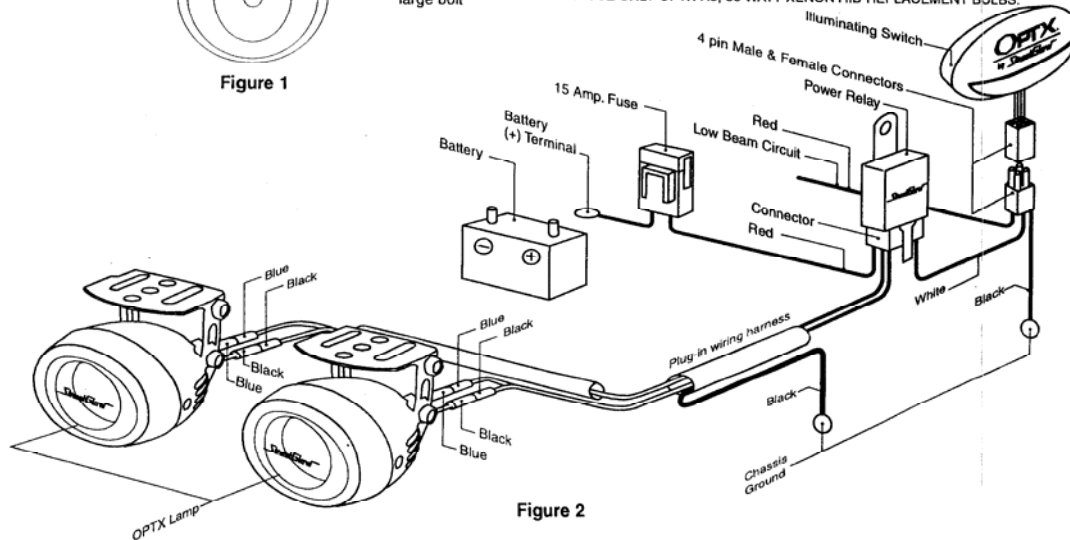

Figure 2
3. Connect the wiring harness relay connector to mounted relay. (Figure 2)
4. Connect BLACK GND wire of harness to chassis ground of the vehicle with ring terminal. (Figure 2)
5. Connect the BLUE wire from harness to the BLUE wire of lamp and then connect BLACK wire of the harness to the BLACK wire of the lamp. (Figure 2)
7. Connect 4 pin male connector of harness to the switch's female connector, and then connect the RED wire from the 4 pin male connector to vehicles low beam circuit. Connect BLACK wire from 4 pin male connector to chassis ground. (Figure 2)